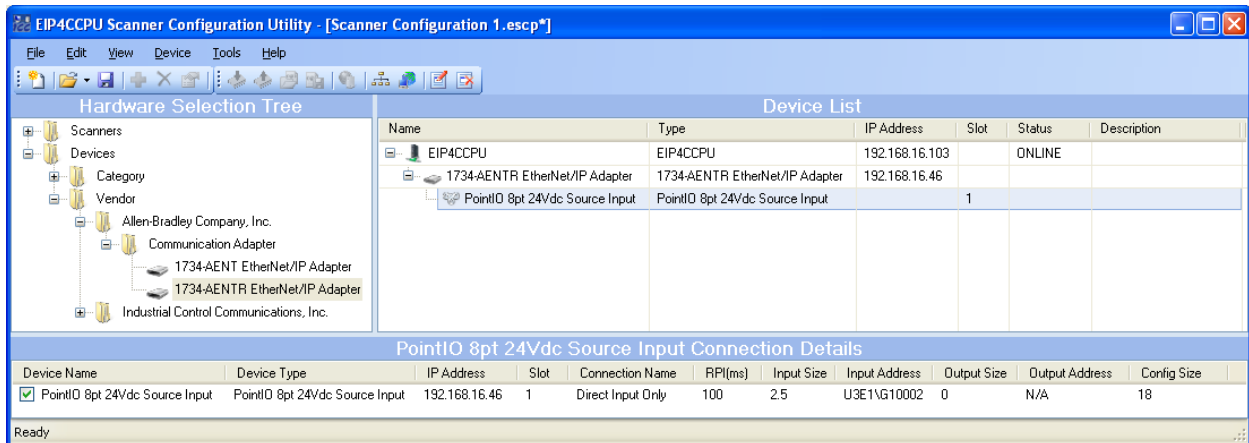

Figure 53: Added a Modular I/O Connection
8. A modular I/O connection has been successfully configured (see Figure 53).